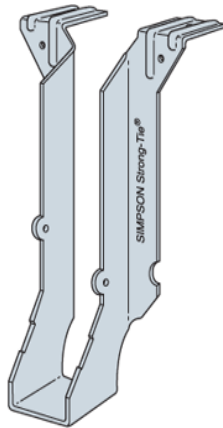

FIGURE 1a—LB HANGER
3.1.1 JB and LB Hanger Series: The JB series hangers are fabricated from No. 18 gage galvanized steel, and the LB hangers are fabricated from No. 14 gage galvanized steel. The top flange must be supported by a wood beam, girder, nailer or ledger. Alternatively, the top flange of the LB hanger may be welded to a steel beam. See Table 1 for hanger dimensions, fastener schedules, and allowable loads. See Figures 1a and 1b for drawings of a typical LB and JB hangers, respectively.